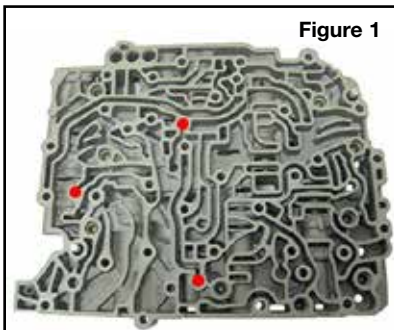

Figure 1
- d. Install checkballs in locations indicated by the circles (**Figure 1**).